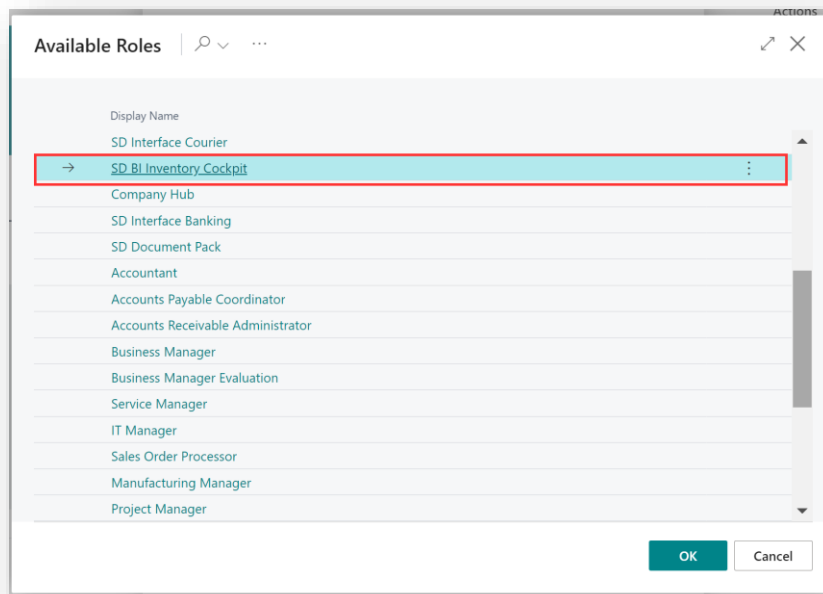

Figure 4-8
3. You should see **SD BI Inventory Cockpit Manager** in the list of Roles (*Figure 4-8*).